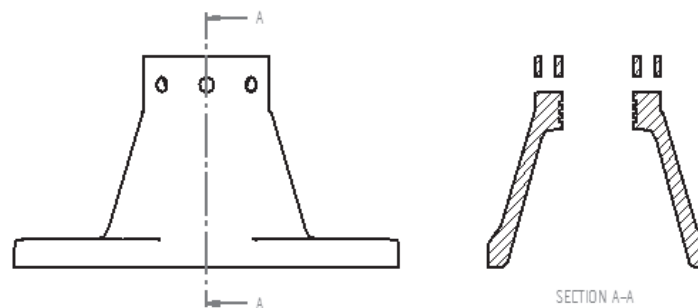

Figure 11-15 Section view displaying only the section area
The **Section Only** button in the ribbon bar is used to generate a section view that displays only that area of the model that is sectioned. Figure 11-15 shows the section view that displays only the section area of the model.
3. Choose the **Section Only** button from the ribbon bar and place the view by clicking on the right side of the front view. The section view is placed, as shown in Figure 11-15.